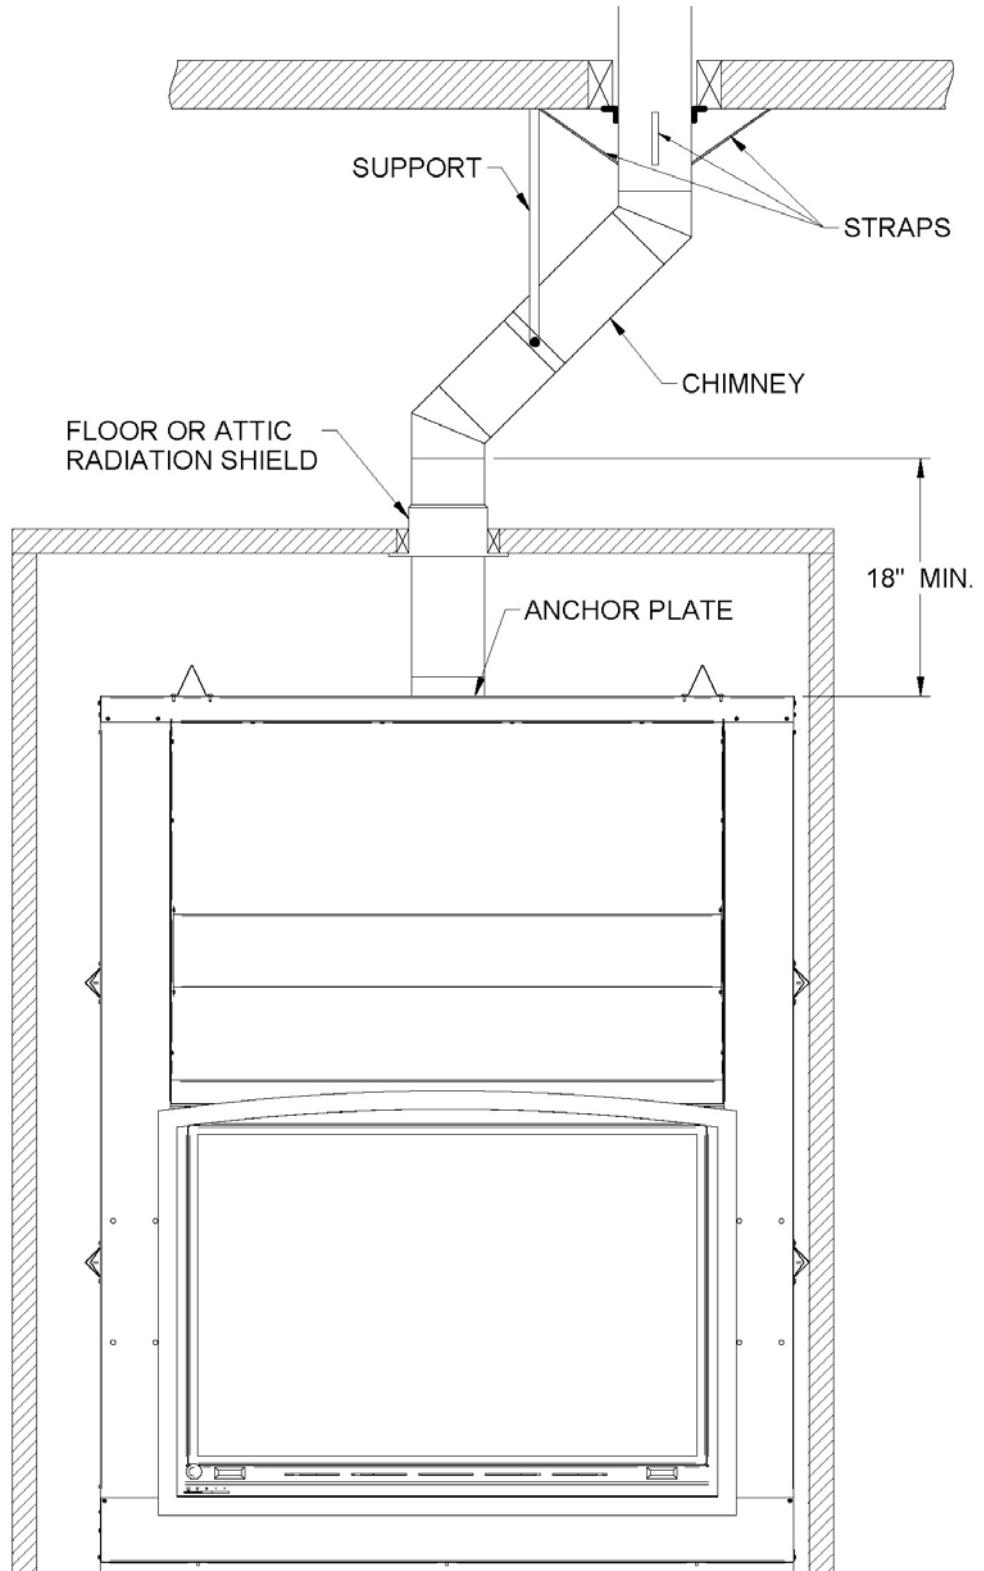

Figure 31
1. There must be a minimum vertical length of 18" starting from the fireplace before putting an deviation/elbow. Install the first elbow; turn it in the required direction. Secure it to the chimney according to the chimney manufacturer's instructions. In many cases, it is recommended to secure connections with three (3) $\frac{1}{2}$ " (12 mm) metal screws.
2. Install the necessary chimney lengths to achieve the required offset. Lock the chimney lengths together according to the chimney manufacturer's instructions. In many cases, it is recommended to use three (3) $\frac{1}{2}$ " (12 mm) metal screws. If the offset length is made of two (2) chimney lengths or more, many chimney manufacturers may require that you use an offset or roof support halfway up the offset. If penetrating a wall, install a wall radiation shield supplied by the chimney manufacturer (voir **Figures 31 et 32**).